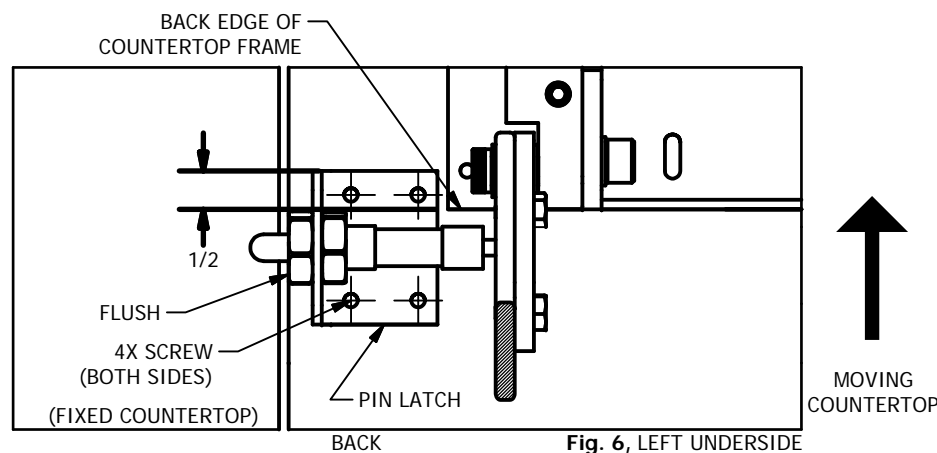

Fig. 6, LEFT UNDERSIDE
-Attach both rear latches 1/2 in from back edge of the countertop frame and flush with moving countertop using #8 x 3/4 in SS screws. (Fig. 6)